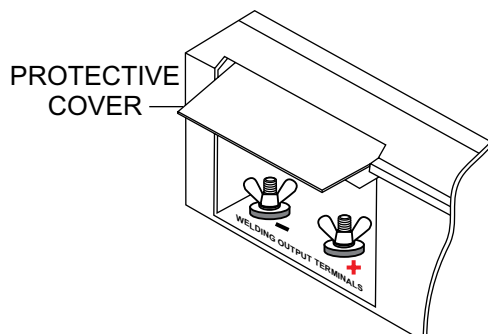

Figure 16. Protective Cover
1. Lift the output terminal protective cover (Figure 16) on the welder-generator to gain access to the welding output terminals.